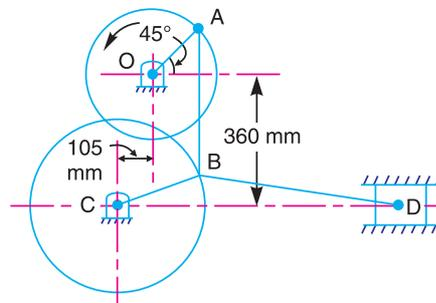

Fig. 7.28
**Example 7.12.** In the toggle mechanism, as shown in Fig. 7.28, the slider *D* is constrained to move on a horizontal path. The crank *OA* is rotating in the counter-clockwise direction at a speed of 180 r.p.m.